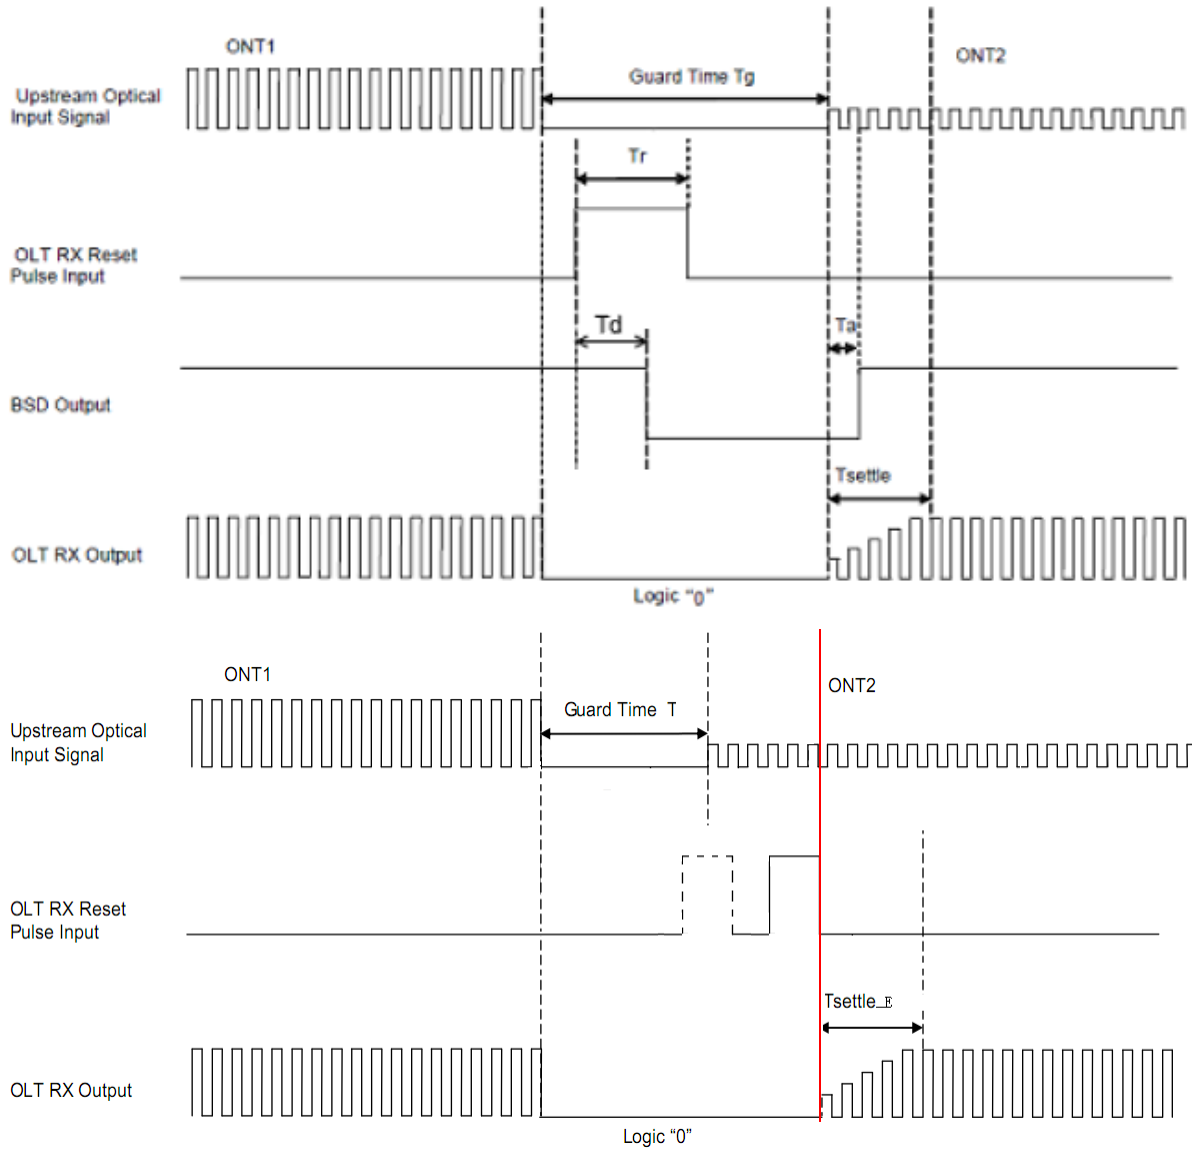

Figure 2 Burst Receiver Timing Sequence
(1) Reset Pulse support 2 modes in Figure2.
(2) SD signal pulls down immediately after Reset signal, and pulls up while detected RX burst signal till the next Reset signal.